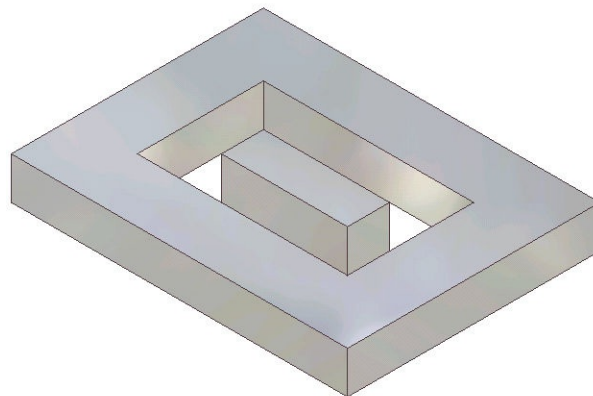
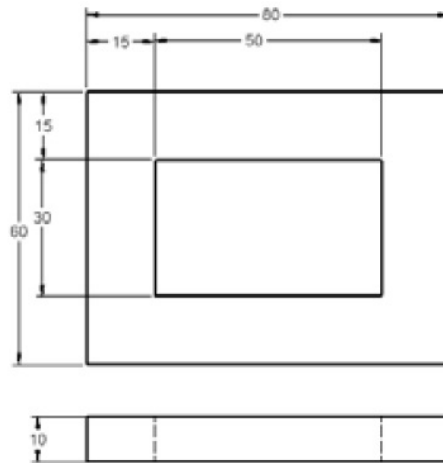
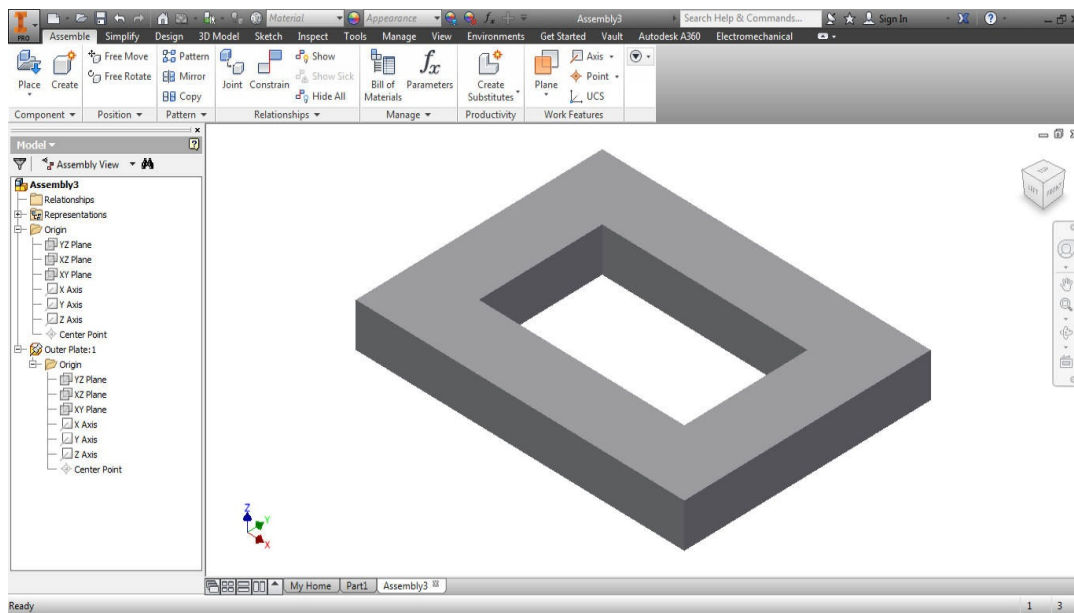

Figure 14-32 Assembly for Tutorial 2
Figure 14-33 *Dimensions of the Outer Plate*
Figure 14-34 Assembly after creating the Outer Plate
In this tutorial, you will create an assembly of the Outer Plate and the Inner Plate shown in Figure 14-32. The dimensions of the Outer Plate are shown in Figure 14-33. Create the Inner Plate as an adaptive part such that it automatically adjusts its size to fit inside the Outer Plate. Apply the **Mate** constraint with an offset of 10 mm to all the outer faces of the Inner Plate and the inner faces of the groove in the Outer Plate. After assembling the components, edit the inner cavity of the Outer Plate such that the Inner Plate again automatically adjusts its size.
- a. Start a new metric assembly file and then create the Outer Plate, refer to Figure 14-34.
4. Create the Outer Plate on the XY plane. After creating the Outer Plate, return to the assembly file. The assembly file after creating the Outer Plate is shown in Figure 14-34. For dimensions, refer to Figure 14-33.